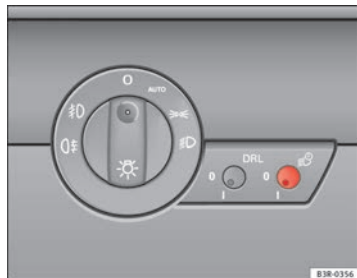

Fig. 86 Detailed view of the instrument panel: Coming home and leaving home functions
- Briefly press the knob ⇒ **fig. 86** to release it from its set position.